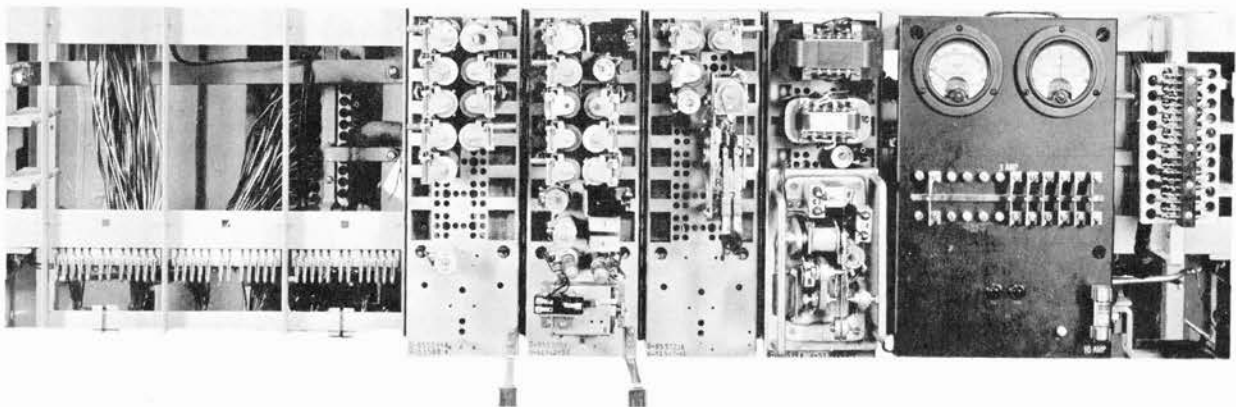

Figure 22: Typical power shelf.
- a. Fuse alarms. Short circuit each fuse alarm strip with its associated bus bar and note that the proper signals operate. All fuse panels (figure 22) and individual fuse alarm contacts should be tested. When making this test, a visual inspection should be made to see that no fuses have blown and failed to give an alarm.